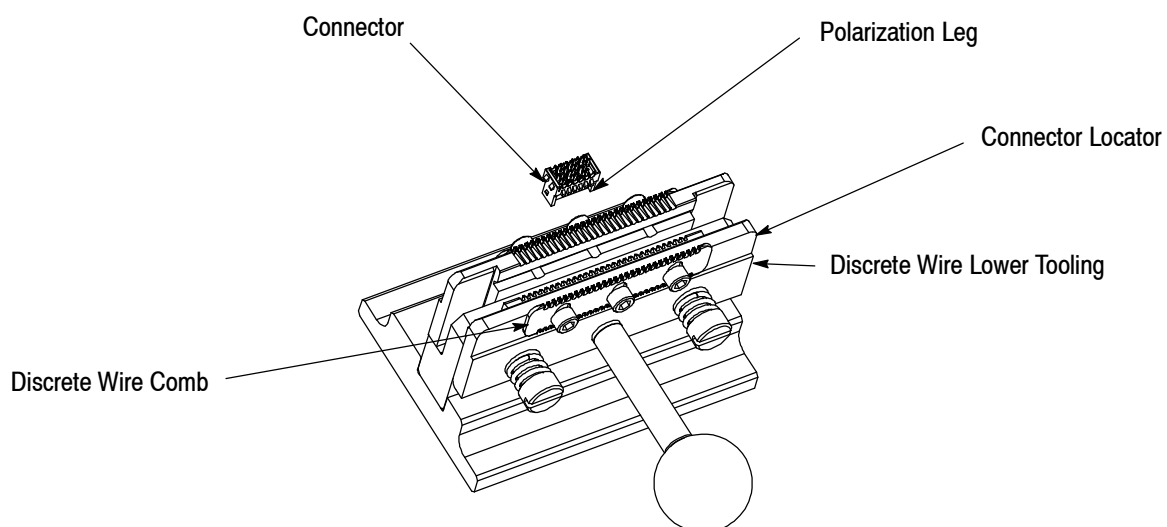

Figure 6
1. Depress the handle on the connector locator and install connector as shown in Figure 6.
1. Depress the ribbon cable locating plate mounted on the connector locator, and install connector as shown in Figure 6.